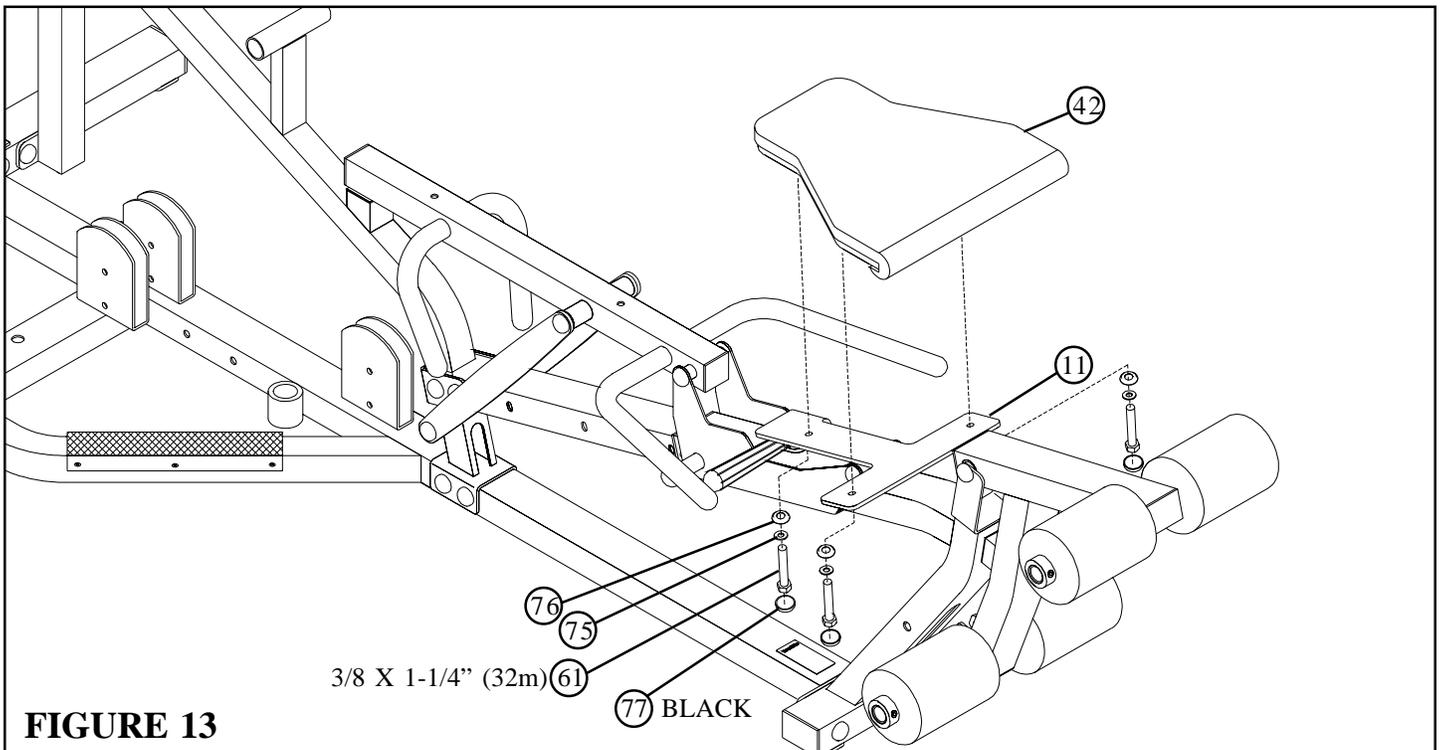

**FIGURE 12**
- **SECURELY** assemble the BACK PAD SUPPORT (15) to the ADJUSTABLE SEAT (12) using two BLACK RH CAPS (77), one 3/8 X 4-1/4" BOLT (67), two 3/8" SAE WASHERS (75), two 3/8" RH WASHERS (76) and one 3/8" LOW HEIGHT LOCK NUT (73) as shown in FIGURE 12.
- **SECURELY** assemble the BACK PAD SUPPORT (15) to the UPRIGHT SUPPORT (6) using two BACK PAD ADJUST PLATES (17), four BLACK RH CAPS (77), two 3/8 X 6-1/2" BOLTS (69), four 3/8" SAE WASHERS (75), four 3/8" RH WASHERS (76) and two 3/8" LOW HEIGHT LOCK NUTS (73) as shown in FIGURE 12.